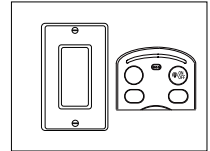

Figure 2
2. About Light Memory: (Figure 2)
Deep-profile use (Figure 2)